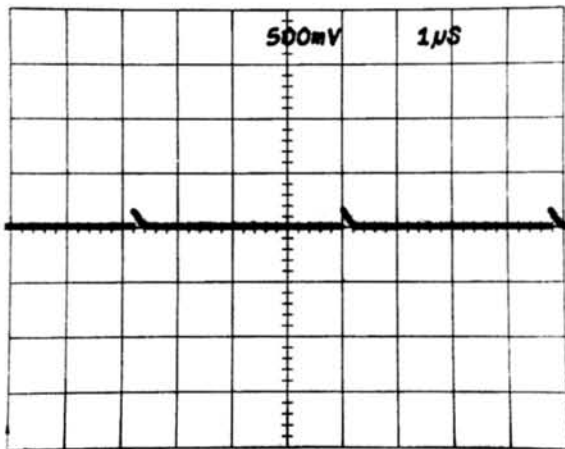

Fig. 7-6. Three 10 ms Markers Per Scan.
- b. Rotate the SCAN control counterclockwise slowly. Notice that the time markers will slow down, stop drifting in one direction, then start drifting in the other direction. The first point at which the time markers stop drifting and change direction must display three time markers (see Fig. 7-6) for the maximum scan rate to be between 25 and 40 hertz. If there are more or less than three time markers at this point, the adjustment of R381 is required.